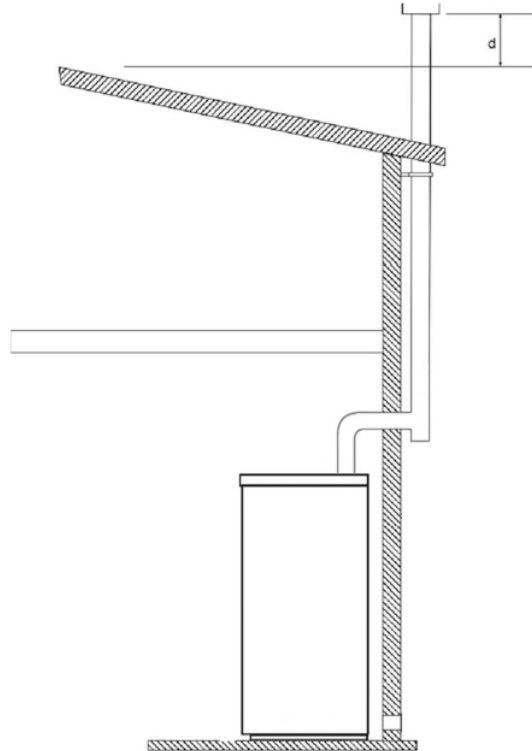

Fig. 9
- Only insulated tubes (double wall) in stainless steel, secured to the building (Fig.9) should be used.
- Fig. 9 shows the solution to be utilised when using external fume ducts.